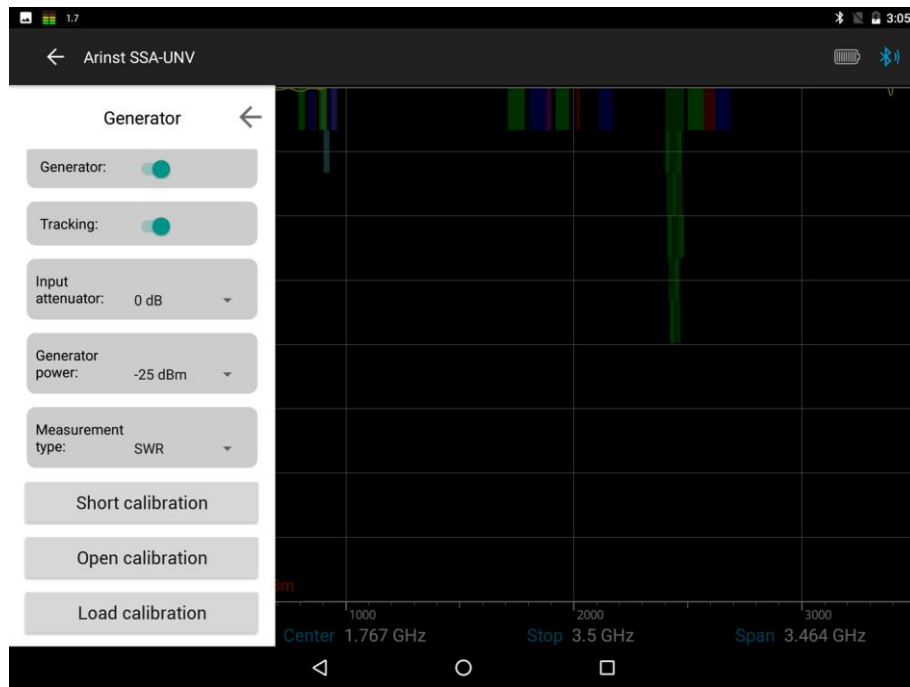

Figure 76 – Calibration in SWR mode
- Load standart and click **Load calibration**, figure 76.